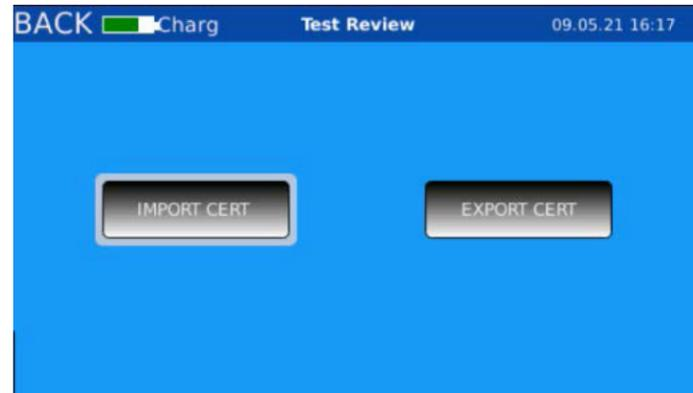

Figure 63. Select "Import Cert" button
15. Select the **Import Cert button** to import the customized HTML certificate template file, **seismic_cert.html**, and the company logo file, **logo.png** (Figure 63).